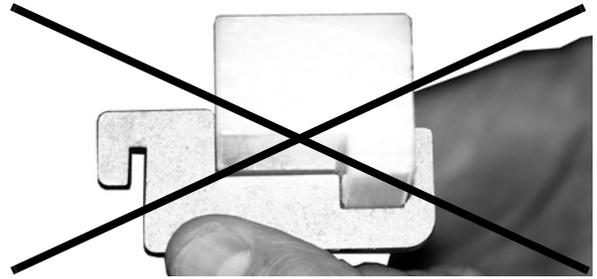
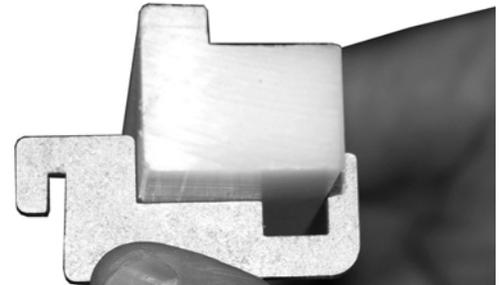

Figure 23
Figure 24
3. Verify that belt returns are mounted correctly by following graphic below (**Figure 23**) shows incorrect mounting and (**Figure 24**) shows correct mounting.